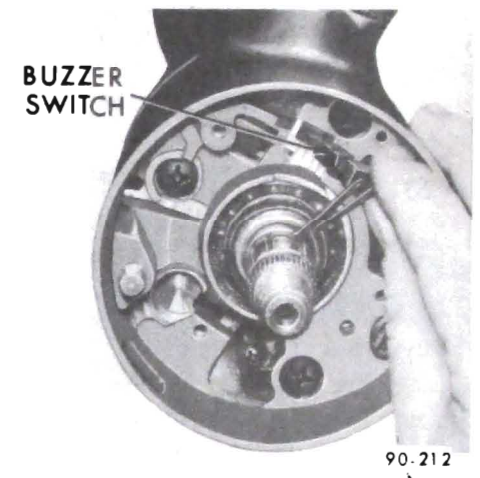

Figure 90-136 - Removing Buzzer Switch
13. The buzzer switch can be pulled straight out of the housing. (This may be done without removing the lock cylinder. However, the lock cylinder must be in the "Run" position.) See Figure 90-136.